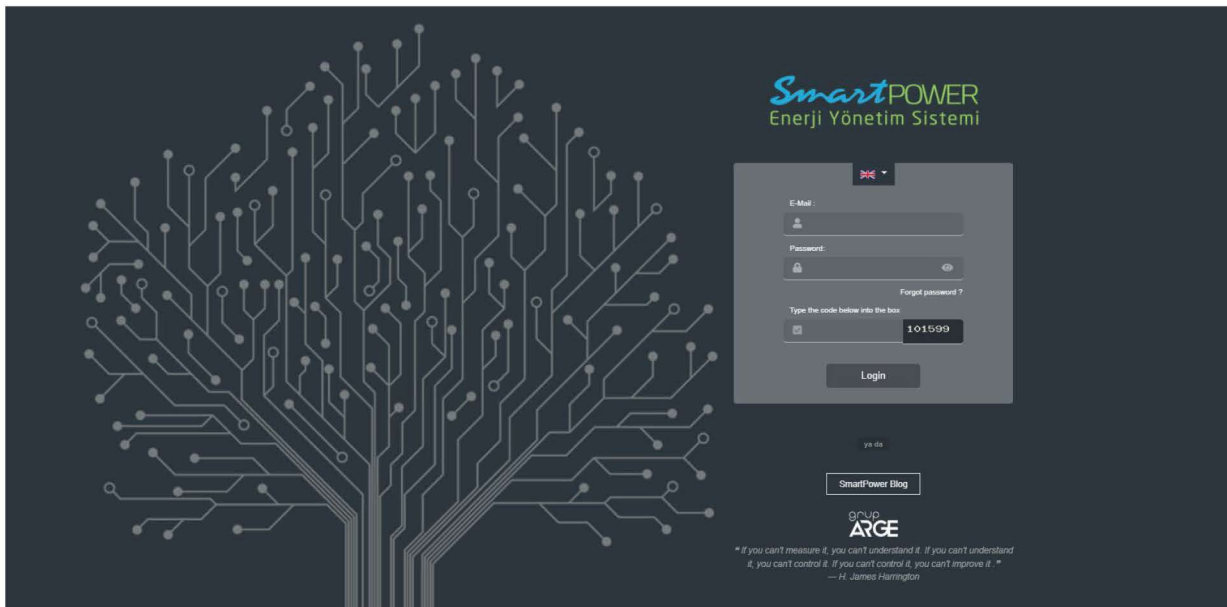

Figure 6.1
1. Visit [www.enerjitakibi.com](http://www.enerjitakibi.com). You will see the login screen as shown in Figure 6.1.